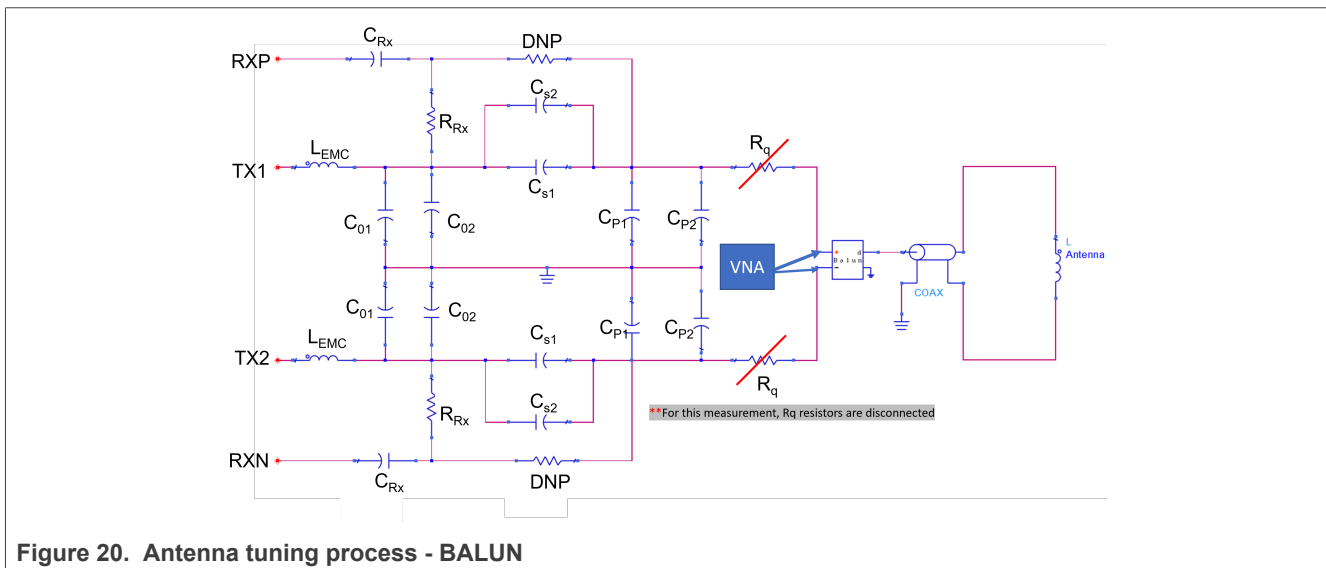

Figure 20. Antenna tuning process - BALUN
1. Measure the antenna + coax cable + BALUN by a VNA (disconnect the rest of the tuning circuit → Figure 20)